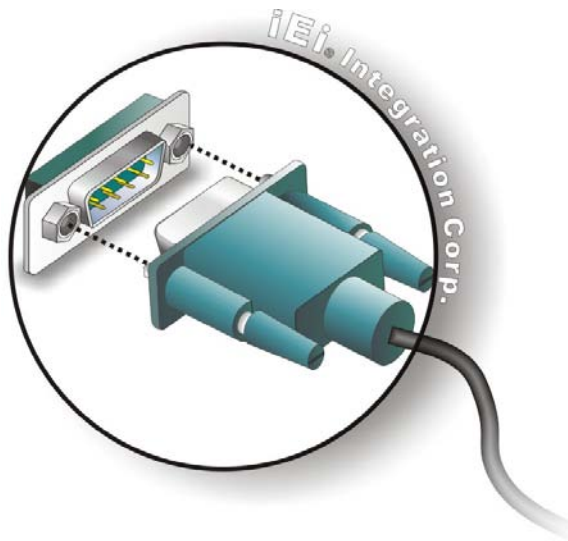

Figure 3-17: Serial Device Connector
Step 2: Insert the serial connector. Insert the DB-9 connector of a serial device into the DB-9 connector on the external peripheral interface. See Figure 3-17.